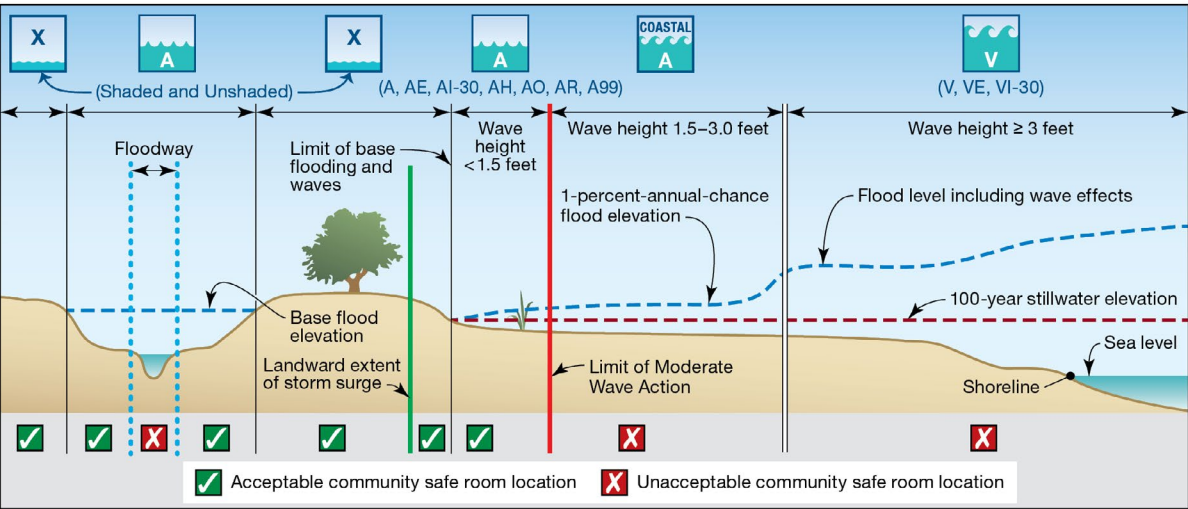

Figure 3. Typical riverine cross section and shoreline transect showing stillwater and wave crest elevations and associated flood zones
Community safe rooms may be located within Zone V and Coastal A Zones⁴ where permitted by the Board of Appeals in accordance with the provisions of the International Building Code and after completing the 8-step Decision Process for Executive Order (EO) 11988, as amended, and as provided by Title 44 of the Code of Federal Regulations Part 9.6, Decision-Making Process. Figure 2 shows examples of community safe room locations that FEMA considers acceptable or unacceptable. This figure illustrates high risk flood zones as reflected on a typical Flood Insurance Rate Map. A typical riverine cross section and shoreline transect shown in Figure 3 denote the stillwater and wave crest elevations associated with the flood zones shown in Figure 2.